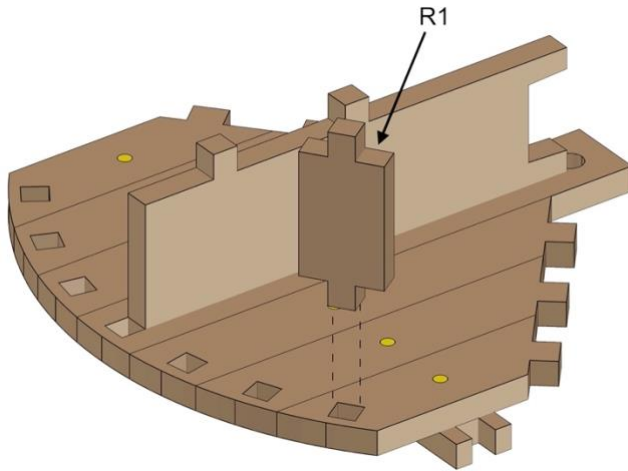

Fig. 77
- Align parts exactly as shown in *Fig. 77*.
- Insert seven R1 pieces. (only one is shown in *Fig. 77*)